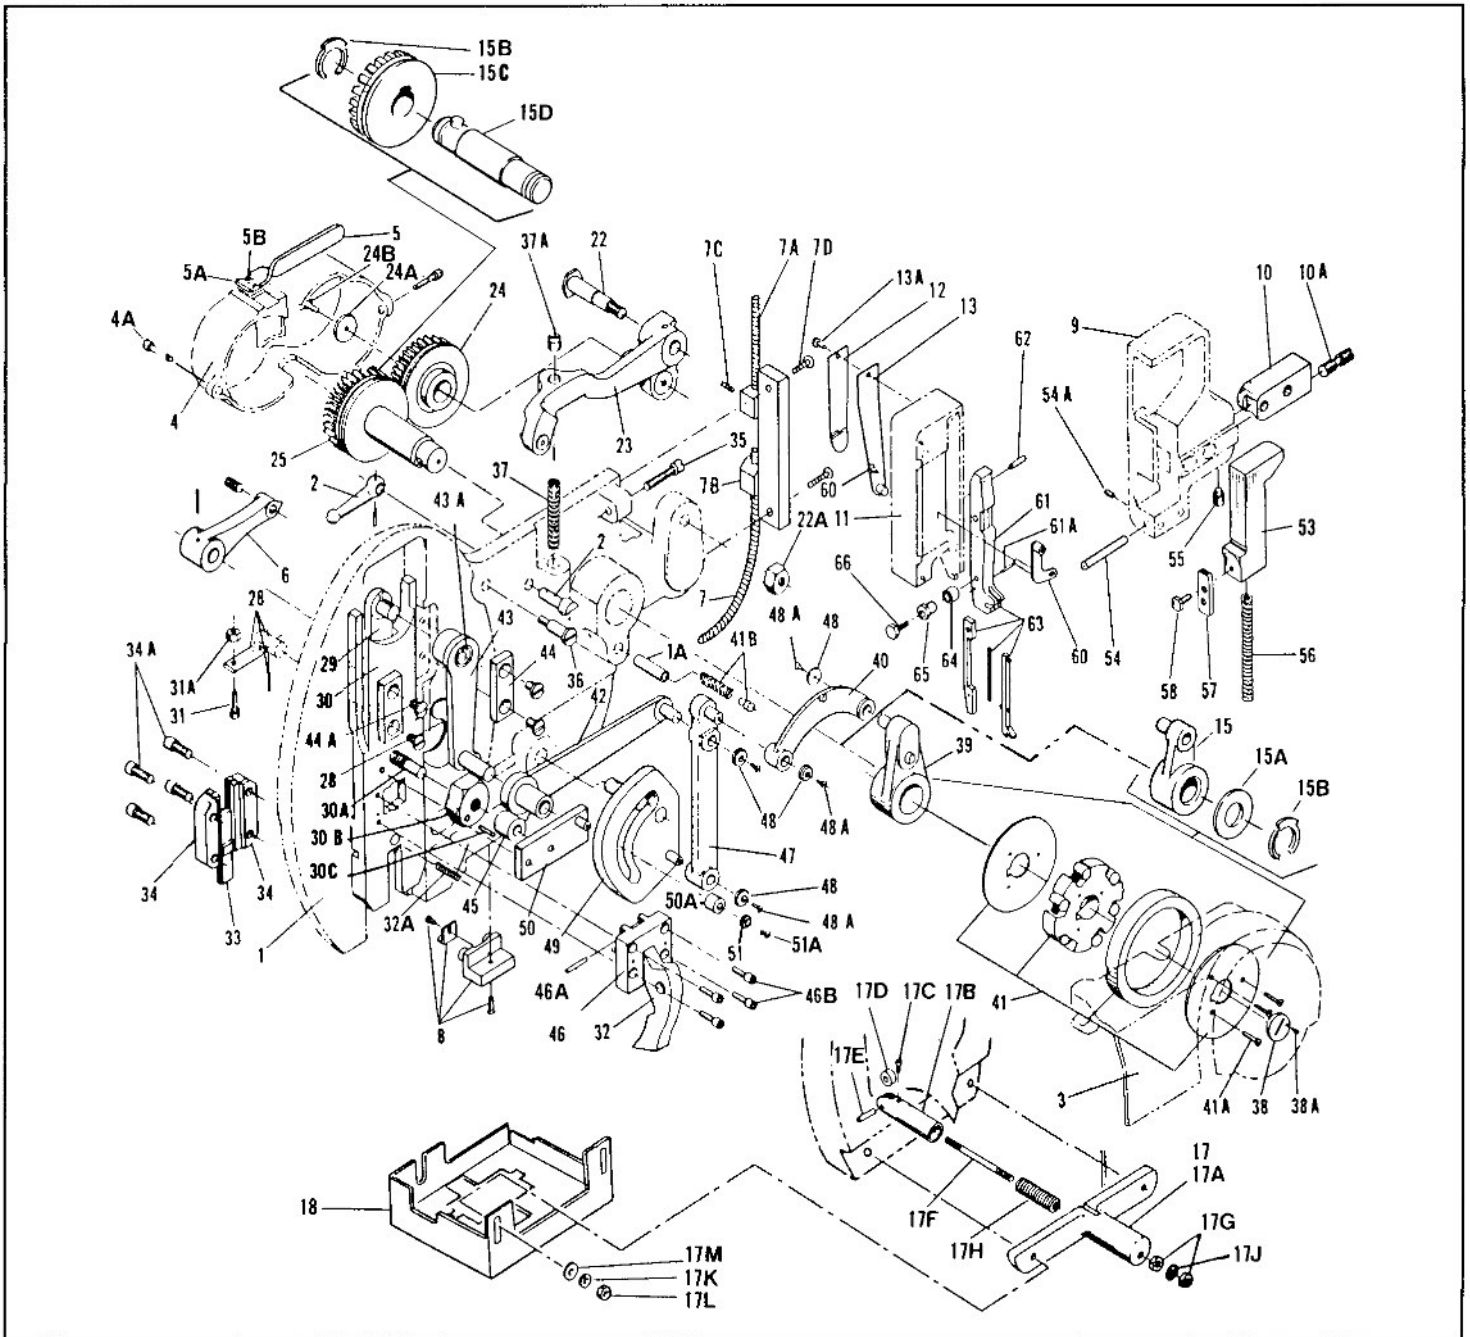

Figure 16
If the shoe support is insufficient, loosen lock screw in lock nut and back off the adjusting nuts (Index 17G, figure 16). This permits the plunger roller to push the shoe further to the front of the stitcher. Make certain that the shoe does not come so far forward that it strikes the mandrel (Index 61, figure 21). This condition can damage the shoe and/or mandrel. If the corners of the shoe over which the stitch rides are square and sharp, round off slightly with fine emery cloth.
10. Oil parts lightly and reassembly. The wire feed clutch brake assembly (Index 41B figure 16) prevents over feed. Keep this part clean and free of oil.